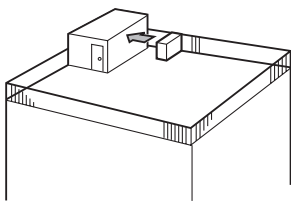

Fig. 2-4
(1) Face the air outlet towards the nearest available wall about 500 mm away from the wall. (Fig. 2-4)